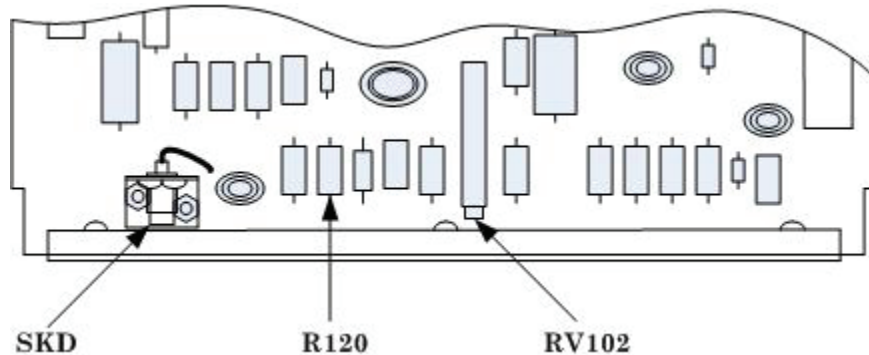

Figure 5. Gamma channel adjustments - amplifier board.
- (26) Connect oscilloscope to R120 (fig. 5) (end closest to edge of amplifier board) and ground to SKD bracket on amplifier board (fig. 5), using probe supplied with oscilloscope.
- (27) Install reference dosimeter M2 in TI.
Make certain trigger level is as close to baseline as possible. To keep trace/pulse as steady as possible, use oscilloscope EXT TRIG input. Connect EXT TRIG input to R120 (fig. 5) along with oscilloscope input.
(29) Adjust oscilloscope to obtain a pulse trace with a known zero volt baseline (pulse height approximately 5 V, width less than 1 mS).
(30) If positive pulse amplitude, with reference to zero volt, is not 0.006 times assigned gamma dose for M2 (example: 4.8 V for an M2 with a nominally assigned value of 800 cGy) when **DEPRESS FOR READING** switch is pressed, adjust RV102 (fig. 5) until positive pulse amplitude is 0.006 times assigned gamma dose for reference dosimeter M2 (R).
(31) Disconnect oscilloscope.
(32) With reference dosimeter used in **9 a** (48) above installed, repeat **9 a** (40) through (48) above.